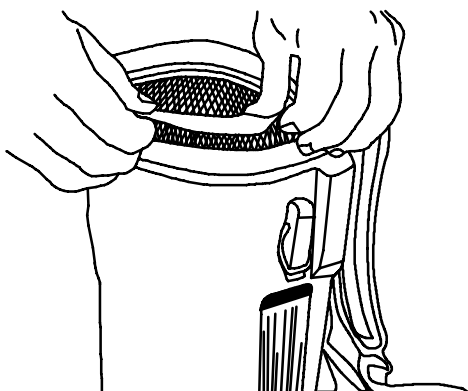

FIG. 2
2. Reinstall the cloth filter, making sure that the lip of the filter completely covers the rim of the vacuum (Figure 2).